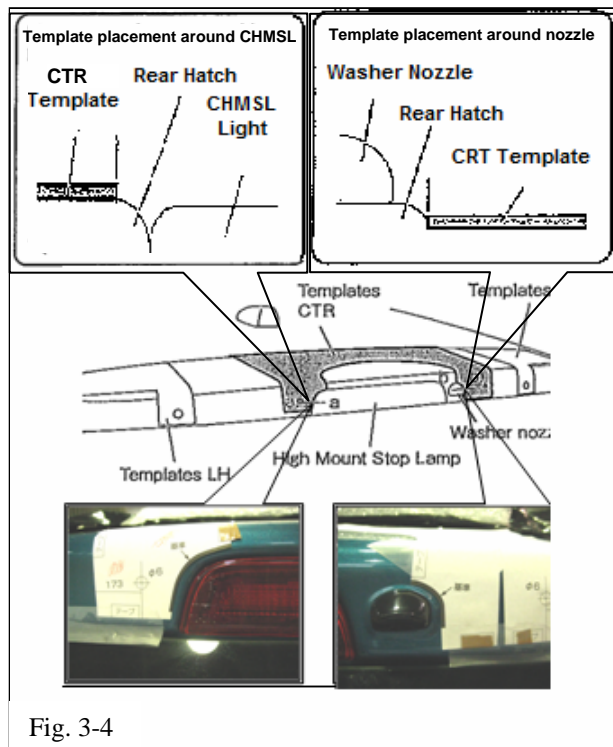

Fig. 3-4
(2) Position the right side of the CTR drilling template to the washer nozzle as shown in Fig. 3-4. Note that the sheet metal surrounding the washer nozzle has a raised edge around the washer nozzle perimeter. The black edge of the template aligns to the washer nozzle sheet metal perimeter before the sheet metal rises to the washer nozzle.
(3) Position the left side of the CTR drilling template to the radius of the CHMSL sheet metal (Fig.3-4).